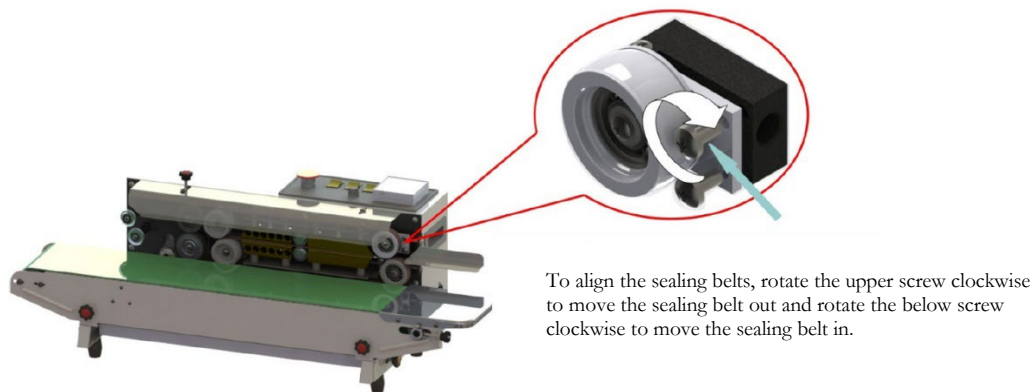

Figure 12. Adjusting sealing belts
- If the sealing belt is running off the guide wheels, make adjustments to the screws that are found on the driven wheel set. See **Figure 12**.